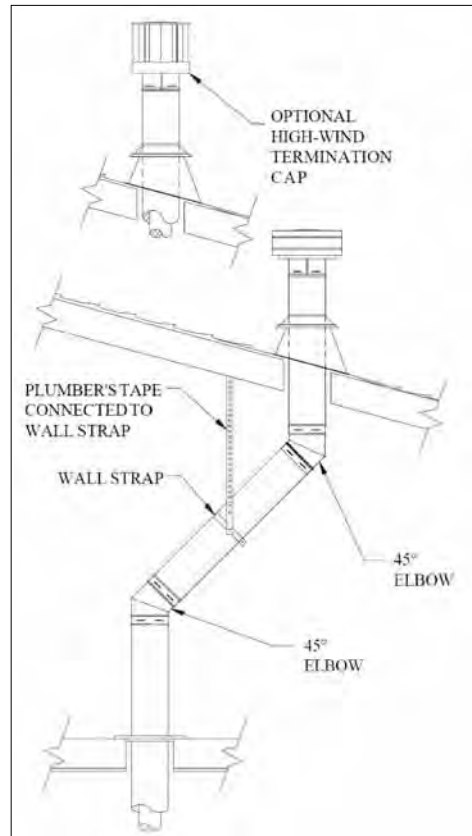
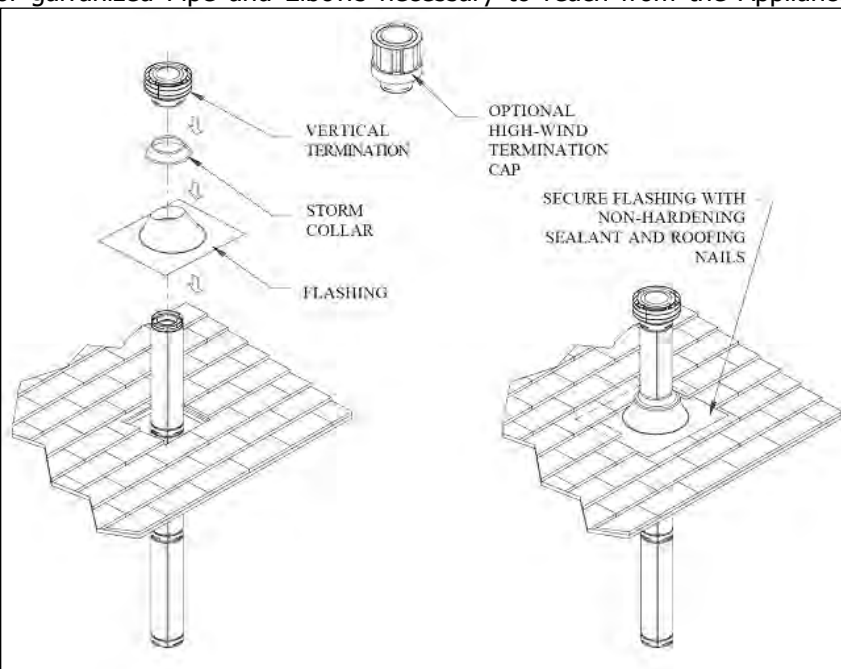

Figure 41: Vertical Installation using.
Figure 42: Installation of Flashing & Vertical Termination.
- (1) If an offset is necessary in the attic to avoid obstructions, it is important to support the vent pipe every 3 feet, to avoid excessive stress on the Elbows, and possible separation. Wall Straps are available for this purpose (see Figure 41).
- (2) Whenever possible, use 45° Elbows, instead of 90° Elbows. The 45° Elbow offers less restriction to the flow of flue gases and intake air.
Step 6. Slip the flashing over the Pipe Section(s) protruding through the roof. Use a non-hardening sealant between the Flashing and the roof to prevent water leakage. Secure the base of the Flashing to the roof with roofing nails. Ensure the roofing material overlaps the top edge of the Flashing as shown in Figure 42. Verify that you have at least the minimum clearance to combustibles at the roofline.
Step 8. Slip the Storm Collar over the Pipe, and push it down to the top of the Flashing, as shown in Figure 42. Use the non-hardening sealant above and below the joint between the Storm Collar and the Pipe.